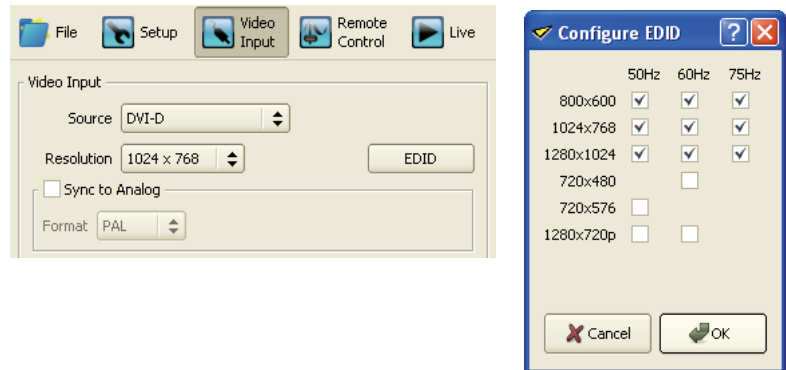

Figure 17: Video input resolution and EDID settings
2. See Figure 17. The **Resolution** box indicates the current video input resolution. This must match the resolution of the incoming video signal. Adjust if necessary.